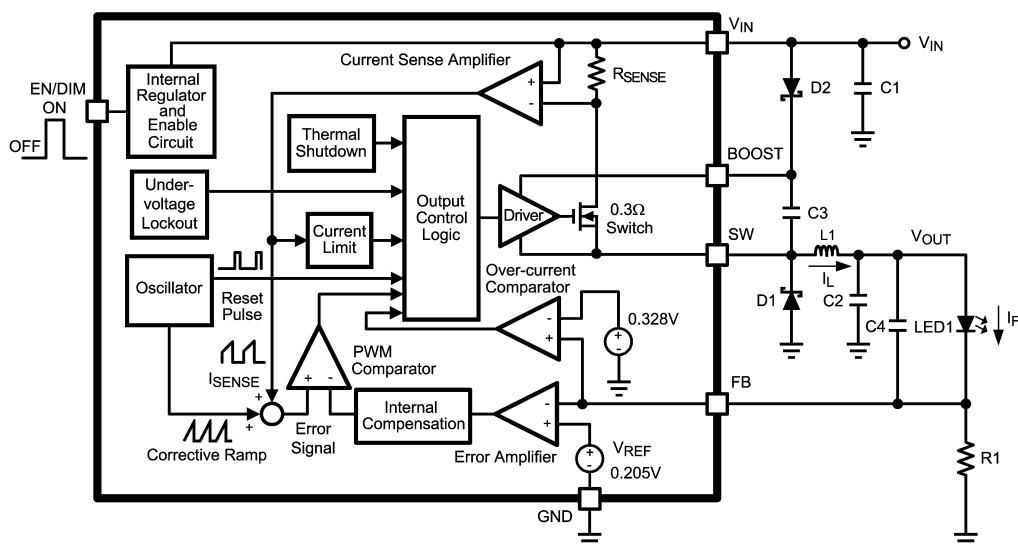
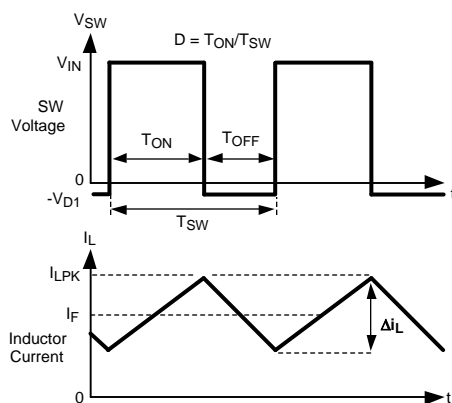

Figure 3. Simplified Block Diagram
Figure 4. SW Pin Voltage and Inductor Current Waveforms of LM3405A
The following description of operation of the LM3405A will refer to the Simplified Block Diagram (Figure 3) and to the waveforms in Figure 4. The LM3405A supplies a regulated output current by switching the internal NMOS power switch at constant frequency and variable duty cycle. A switching cycle begins at the falling edge of the reset pulse generated by the internal oscillator. When this pulse goes low, the output control logic turns on the internal NMOS power switch. During this on-time, the SW pin voltage ( $V_{SW}$ ) swings up to approximately  $V_{IN}$ , and the inductor current ( $I_L$ ) increases with a linear slope.  $I_L$  is measured by the current sense amplifier, which generates an output proportional to the switch current. The sense signal is summed with the regulator's corrective ramp and compared to the error amplifier's output, which is proportional to the difference between the feedback voltage and  $V_{REF}$ . When the PWM comparator output goes high, the internal power switch turns off until the next switching cycle begins. During the switch off-time, inductor current discharges through the catch diode D1, which forces the SW pin to swing below ground by the forward voltage ( $V_{D1}$ ) of the catch diode. The regulator loop adjusts the duty cycle (D) to maintain a constant output current ( $I_F$ ) through the LED, by forcing FB pin voltage to be equal to  $V_{REF}$  (0.205V).
Capacitor C3 and diode D2 in Figure 3 are used to generate a voltage  $V_{BOOST}$ . The voltage across C3,  $V_{BOOST} - V_{SW}$ , is the gate drive voltage to the internal NMOS power switch. To properly drive the internal NMOS switch during its on-time,  $V_{BOOST}$  needs to be at least 2.5V greater than  $V_{SW}$ . A large value of  $V_{BOOST} - V_{SW}$  is recommended to achieve better efficiency by minimizing both the internal switch ON resistance ( $R_{DS(ON)}$ ), and the switch rise and fall times. However,  $V_{BOOST} - V_{SW}$  should not exceed the maximum operating limit of 5.5V.
The first method is shown in the Simplified Block Diagram of Figure 3. Capacitor C3 is charged via diode D2 by  $V_{IN}$ . During a normal switching cycle, when the internal NMOS power switch is off ( $T_{OFF}$ ) (refer to Figure 4),  $V_{BOOST}$  equals  $V_{IN}$  minus the forward voltage of D2 ( $V_{D2}$ ), during which the current in the inductor ( $L1$ ) forward biases the catch diode D1 ( $V_{D1}$ ). Therefore the gate drive voltage stored across C3 is:
The inductor value determines the output ripple current ( $\Delta i_L$ , as defined in Figure 4). Lower inductor values decrease the size of the inductor, but increases the output ripple current. An increase in the inductor value will decrease the output ripple current. The ratio of ripple current to LED current is optimized when it is set between 0.3 and 0.4 at 1A LED current. This ratio  $r$  is defined as: